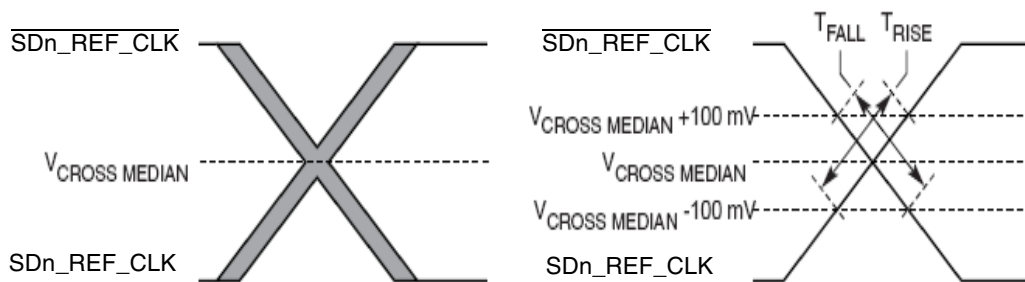

Figure 48. Single-Ended Measurement Points for Rise and Fall Time Matching
4. Matching applies to rising edge rate for SDn_REF_CLK and falling edge rate for SDn_REF_CLK. It is measured using a 200 mV window centered on the median cross point where SDn_REF_CLK rising meets SDn_REF_CLK falling. The median cross point is used to calculate the voltage thresholds the oscilloscope is to use for the edge rate calculations. The Rise Edge Rate of SDn_REF_CLK should be compared to the Fall Edge Rate of SDn_REF_CLK, the maximum allowed difference should not exceed 20% of the slowest edge rate. See Figure 48.